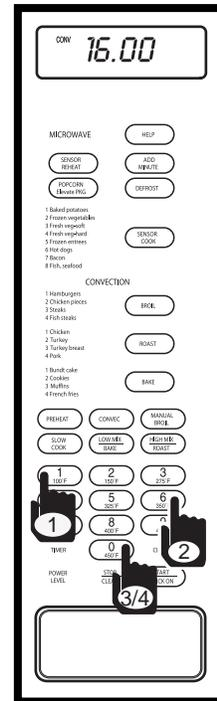

Figure 3-79.
5. Enter desired cooking time. Press number 1 key, number 6 key, and number 0 key twice, "25.00 - PRESS - START" will flash on display. (See Figure 3-79)